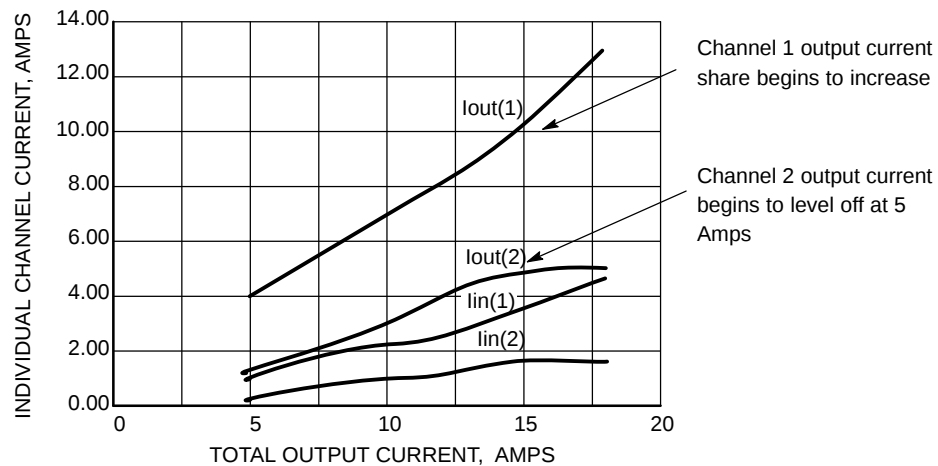

Figure 7. 70%/30% Current Sharing with Channel 2 Current Limiting
- A preset ratio up to a specific current contribution from Channel 2. In excess of that limit, all of the additional load current would be supplied by Channel 1. Figure 7 depicts the actual performance of a NCP5425 configured in a 70%–30% share ratio, with Channel 2 output current limited to 5.0 Amps.
Channel 1 is connected to the reference input of the Channel 2 error amplifier. Current information from Channel 2 is fed back to the error amplifier's inverting input. Channel 2 will therefore act to adjust its current to match the current information fed to its reference input from Channel 1. If this information is one-half the voltage developed across the Channel 1 output inductor, Channel 2 will run at half the current and supply a approximately 33% of the total load current. This application is illustrated in Figure 7.